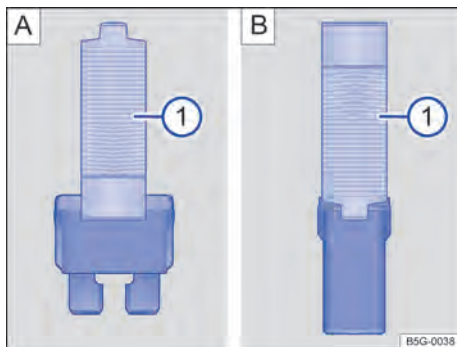

Fig. 176 Removing or installing the fuse with the plastic claw: A flat fuse, B blocking fuse.
- If applicable, take the plastic tweezers → Fig. 176  out of the fuse box cover.
- According to the fuse type, apply the proper claw of the plastic tweezers → Fig. 176   or → Fig. 176   to the fuse sides.